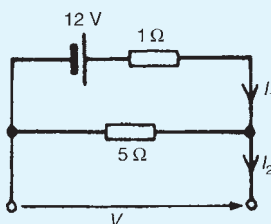

Figure 13.91
4. For the circuit shown in Fig. 13.91, voltage V is:
5. For the circuit shown in Fig. 13.91, current I_1 is:
6. For the circuit shown in Fig. 13.91, current I_2 is: